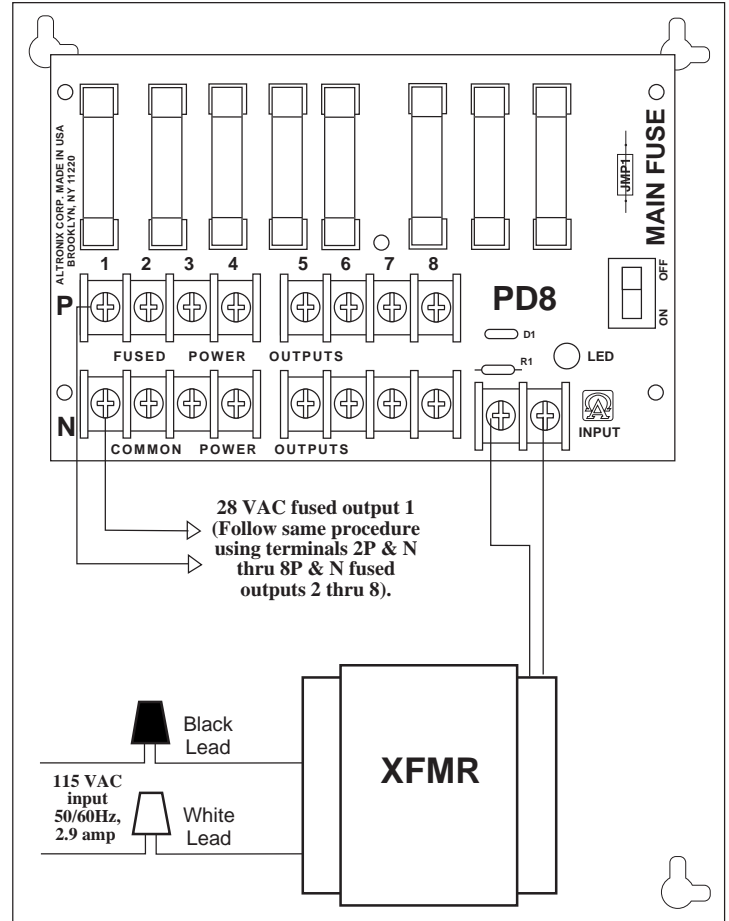

Fig. 1
- Eight (8) individual fuse protected power limited outputs.
- Output fuses are rated at 3.5 amps / 250VAC (*Fig. 1*).
2. Slide switch SW1 (*Fig. 1*) to OFF position.
3. Connect the AC (115VAC 50/60 Hz) to the black and white flying leads of the transformer (*Fig. 1*).
4. Connect each camera to terminal pairs 1 to 8, marked [1P-1N thru 8P - 8N] (*Fig. 1*).
5. Slide switch SW1 (*Fig. 1*) to ON position.
8. Fuses F1 through F8 are rated 3.5 amps / 250VAC (*Fig. 1*).